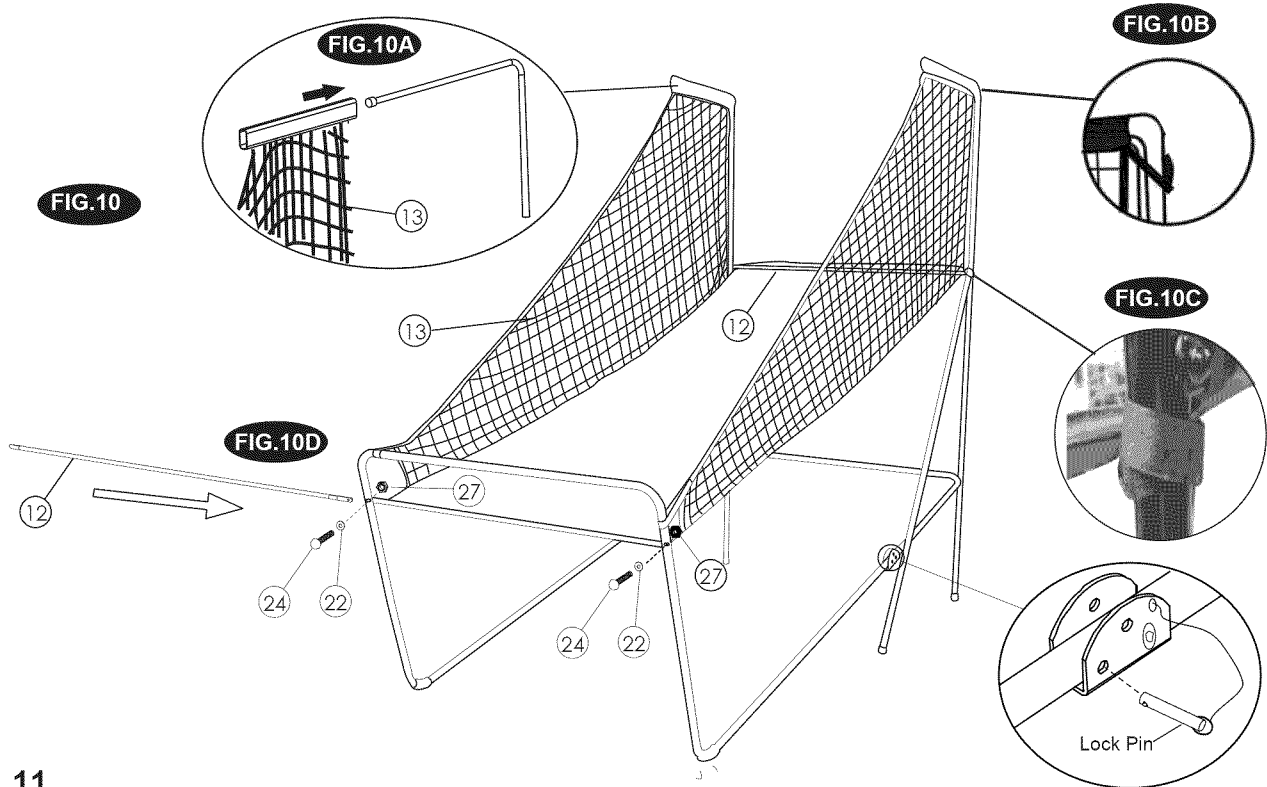

FIG. 11
15. With the help of another adult, Attach Backboard(#21) to Top Net Hanger Tube(#1) using Bolts(#25), Washers(#22) and Nuts(#27) as shown in FIG11 A.
At each bottom hole of the backboard, attach the ramp tabs of Ball Ramp(#13) and Backboard to the Top Net Hanger Tube (#1) using Bolts(#25), Washers(#22) and Nuts(#27) as shown in FIG11 B .